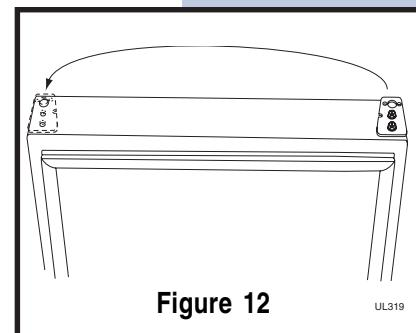

Figure 12
- 6 With bottom of door facing up, remove pivot plate (2 screws), flip over, and remount on opposite side of door (see **Figure 12**).